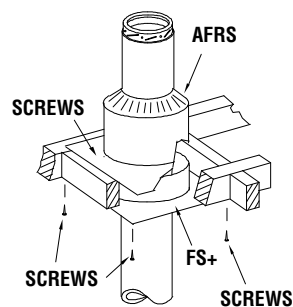

Figure 5
Step 7. At the attic level, install a firestop plate (FS+), from below and an attic radiation shield (AFRS) from above (see figure 5). Install the roof radiation shield in the roof joists. This shield consists of four metal plates supplied with the roof flashing. Nail one plate to each side of the joist using (2) - 2 1/2" nails.